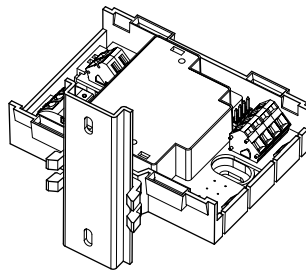

Fig. 2
- on a top hat rail (Fig. 2)
2. Press the module and the installation feet against the top hat rail until the feet snap in (Fig. 2).
- Auf einer Hutschiene (Fig. 2)